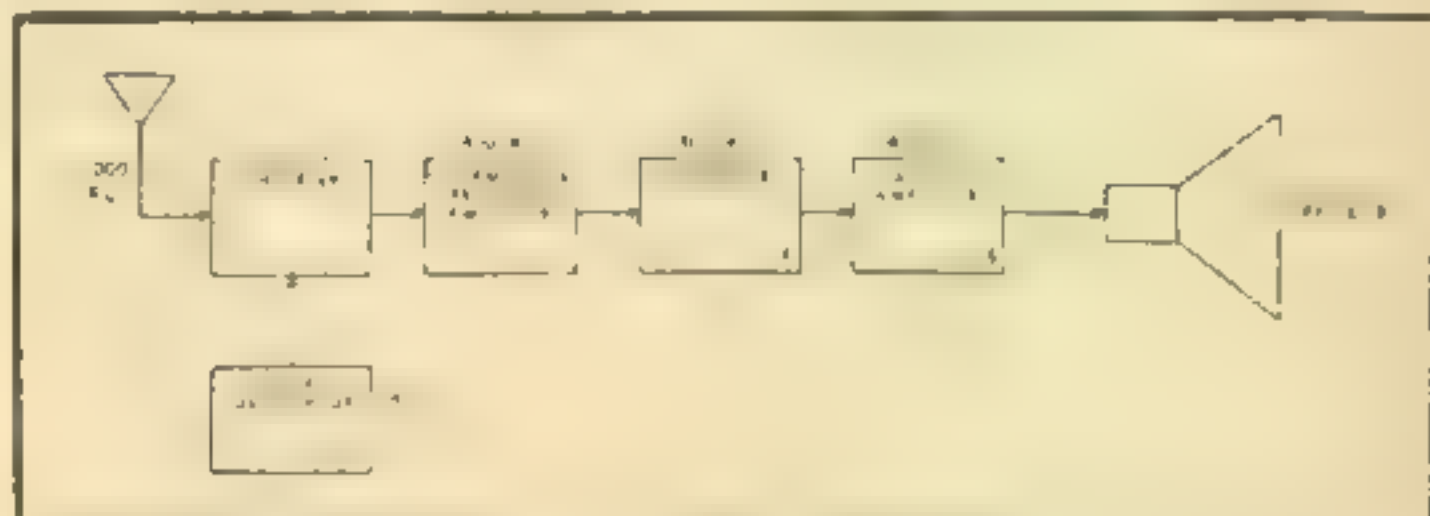

Fig. 7. Block diagram of the conventional superheterodyne
For the benefit of those who have permitted themselves to become rusty in elementary radio theory, let us first review the principle of operation of an ordinary superheterodyne receiver. Assume that a 1,000-kc signal is to be received. Referring to Fig. 7, the 1,000-kc signal is fed to a tuned stage called the converter (1). At the same time, an oscillator (2) feeds a signal of 1,400 kc into the converter. When these signals of
Again referring to Fig. 7, it is obvious that many hundreds of signals of different frequencies